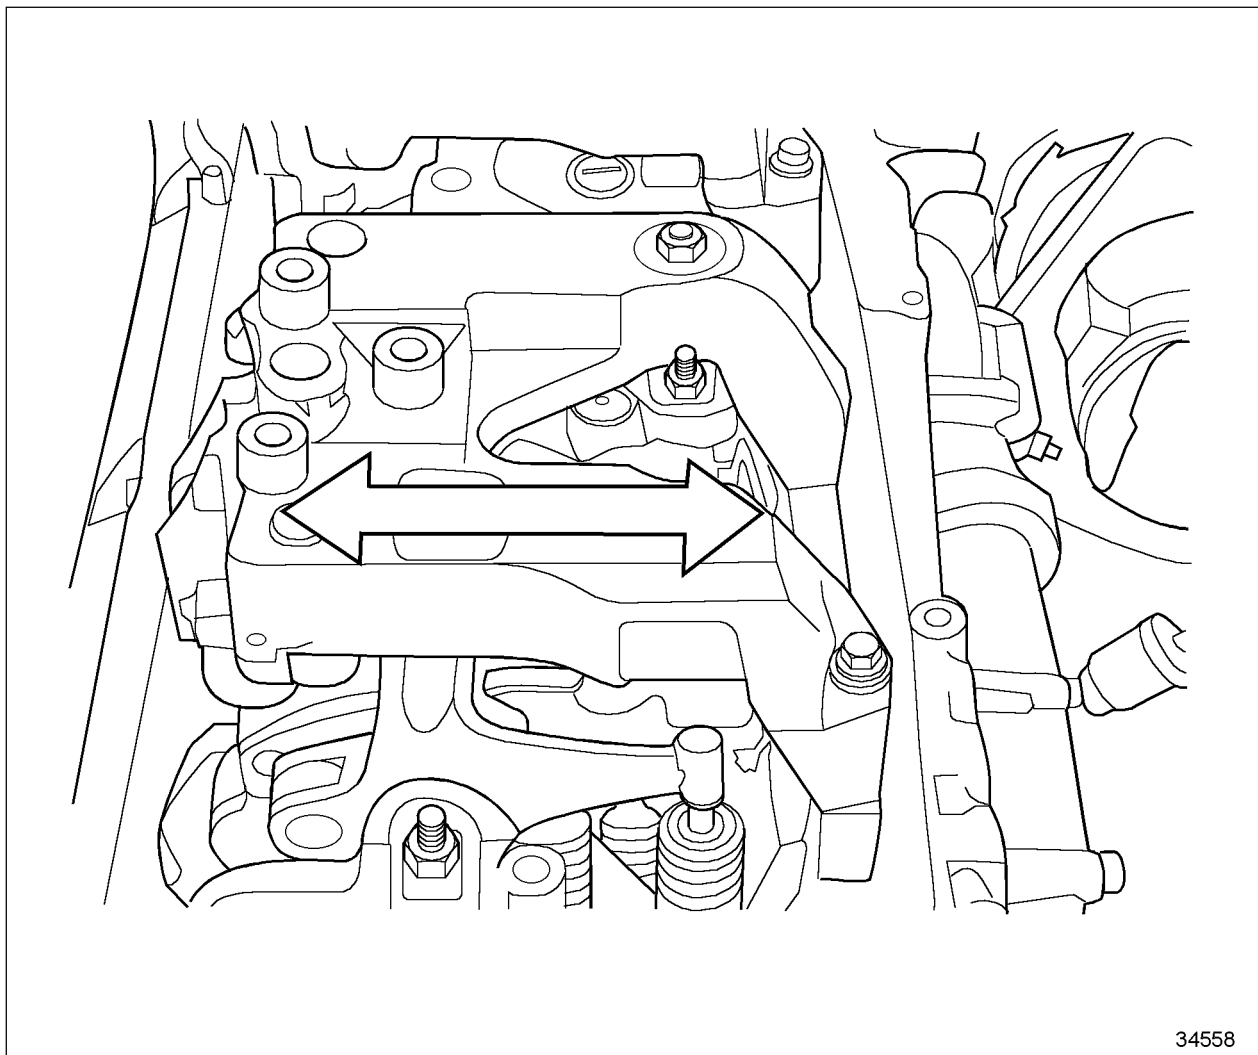

Figure 1-440 **Locating Center Position of Housing**
10. On models 760A and 765, move the housing from side to side, and locate the housing in the center position of the movement. See Figure 1-440.